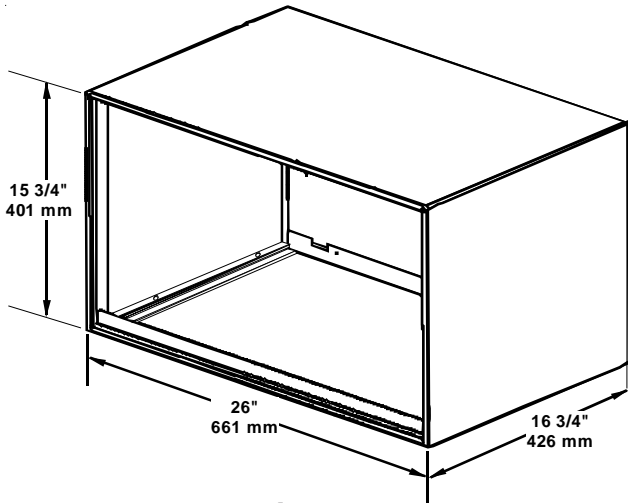

Figure 1
- The wall opening must be the correct size. See Figure 1 for wall sleeve dimensions and Figure 3 for minimum wall opening size.